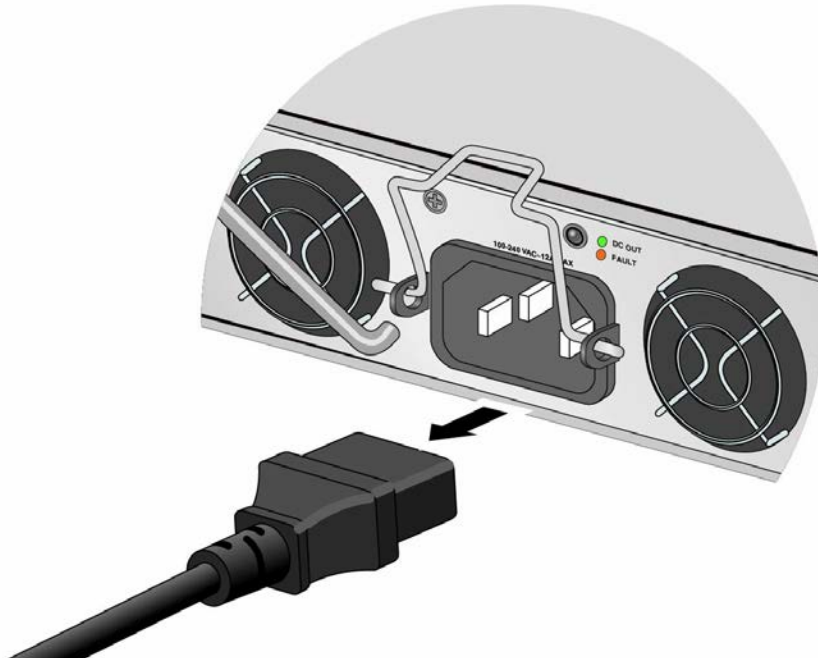

Figure 63. Disconnecting the Power Cord from the Power Supply
2. Disconnect the AC power cord from the AC power supply. Refer to Figure 63.